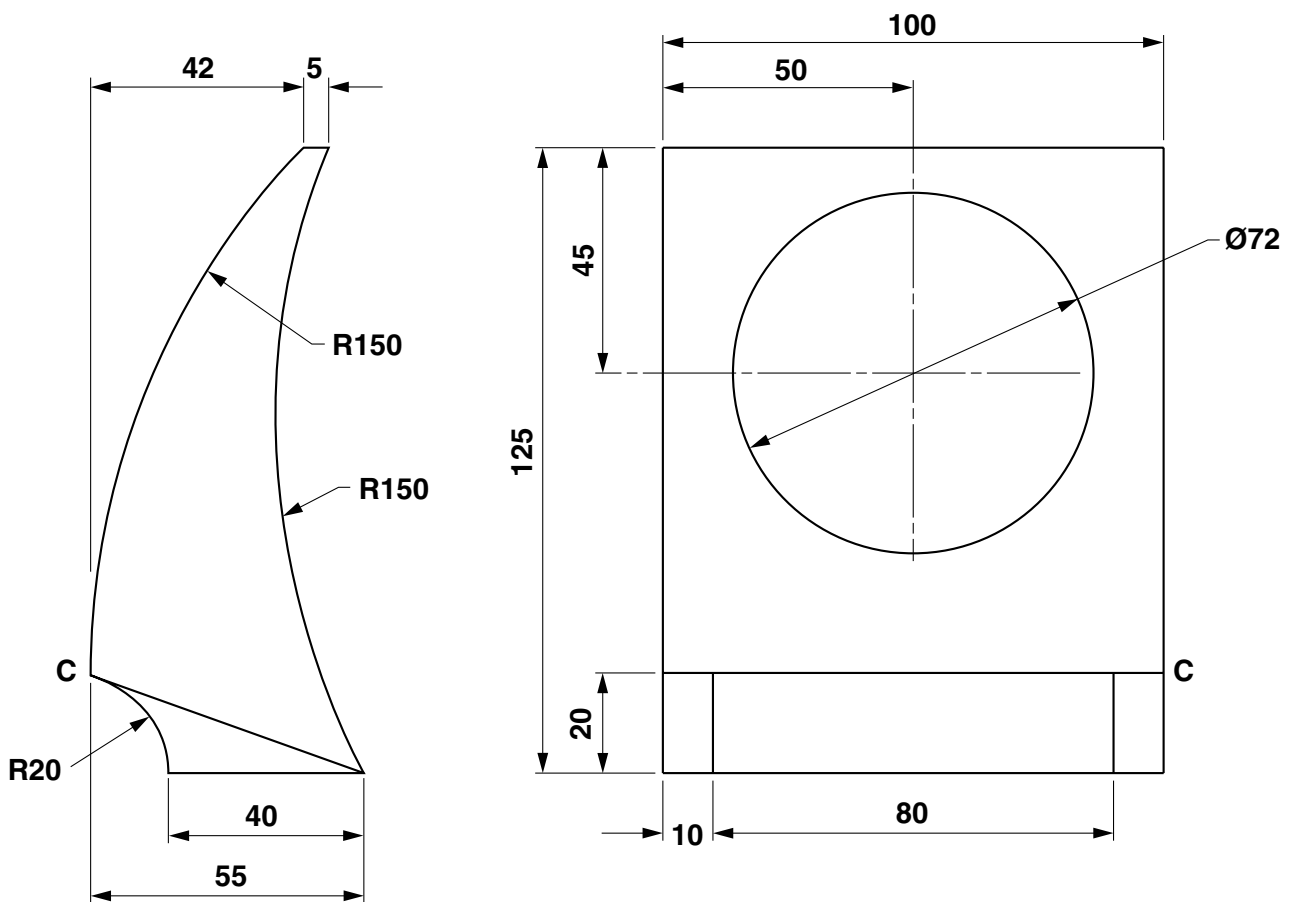

Fig. 5
- 5 Orthographic views of the case of a clock are given in Fig. 5.